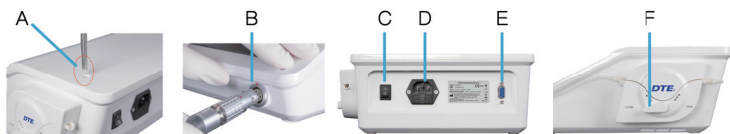

Fig.6
**Danger:** Do not install the device on or in the vicinity of sources of heat. Install it such a way that there is an adequate circulation of air around it. Leave sufficient free space around it, in particular with reference to the fan on the rear. (Fig.6)
6.3.2 Insert the rod for supporting the bag into the holes provided for it (Fig.6—Ref.A);
6.3.3 Connect the footswitch to the casting of the device by inserting the plug into the footswitch socket (Fig.6—Ref.E);
6.3.4 Plug the power cable into the connector on the casting of the device (Fig.6—Ref.D) and then into the power outlet;
6.3.5 Insert the tube of Surgery-X(LED) cord to the cord connector on the device (Fig.6—Ref.B);
6.3.9 Press the button “on/off” (Fig.6—Ref.C), then can use the device.
7.5.4 Make sure that the Surgery-X(LED) handpiece is correctly connected to the handpiece connector (Fig.6-Ref.B);